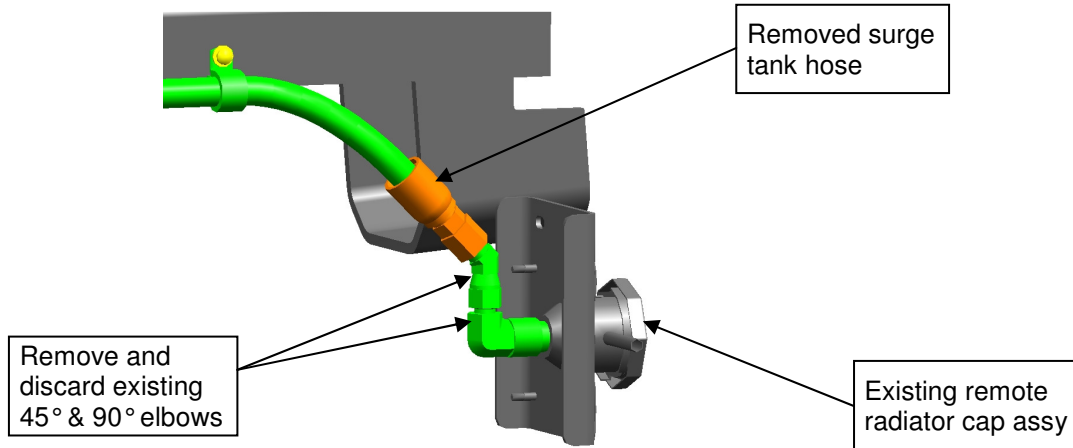

Figure 2: Remote Radiator Cap Fittings
8. Remove existing 90° elbow (NF p/n 434955) and 45° elbow (NF p/n 215210) from the remote radiator cap assembly and discard. See Figure 2.